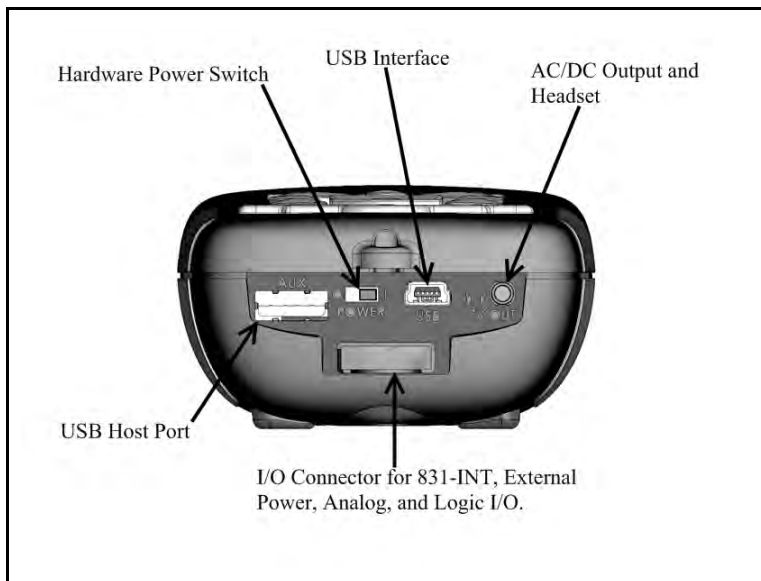
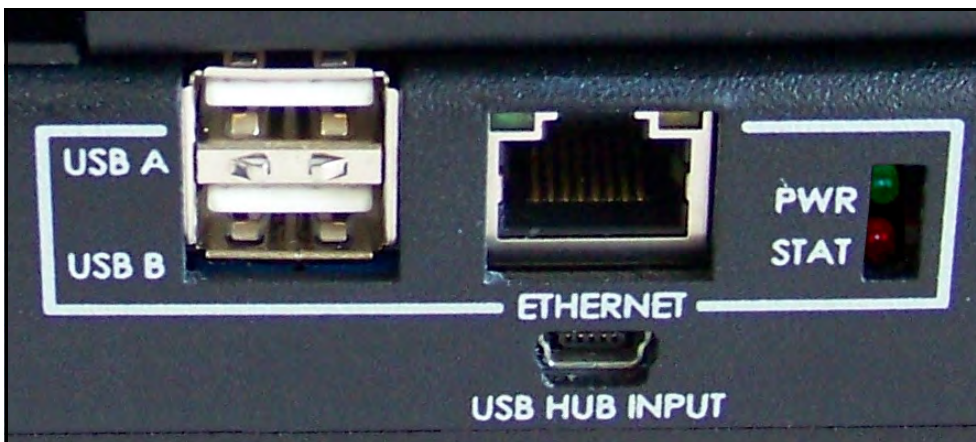

FIGURE B-1 Model 831 Bottom view
FIGURE B-2 Ethernet Status Lights and Ethernet PWR Light
- Step 3** Check that the CBL159 is connected from the Model 831 USB client port (marked USB on the Model 831, *Figure B-1*) to the 831-INT-ET SBC USB port marked “USB B” (See *FIGURE B-2* and *Figure B-2*).
- Step 4** Verify that the CAT5e or CAT6 Ethernet cable is attached to the network router and also to the 831-INT-ET Ethernet connector. (See *Figure B-2*.) The green LED on the Ethernet connector should be on; the yellow LED will blink with network connectivity.
- Make sure the CBL159 USB cable is connected from the Model 831 USB Host port (marked AUX on the Model 831, *Figure B-1*) to the 831-INT USB hub port (marked USB HUB INPUT, *FIGURE 2-4*).